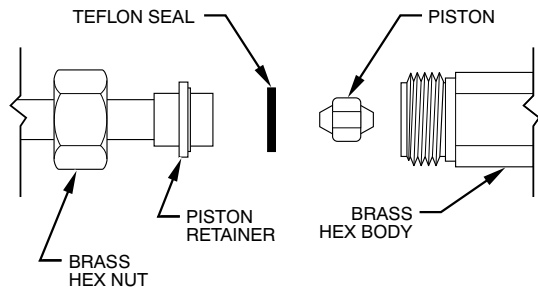

Fig. 29 – Refrigerant Flow-Control Device (For FB and FMA4P)
2. Recover remaining refrigerant from tubing and coil through gage port on vapor-tube service valve. Disconnect refrigerant (liquid) tube from piston body (Fig. 29).